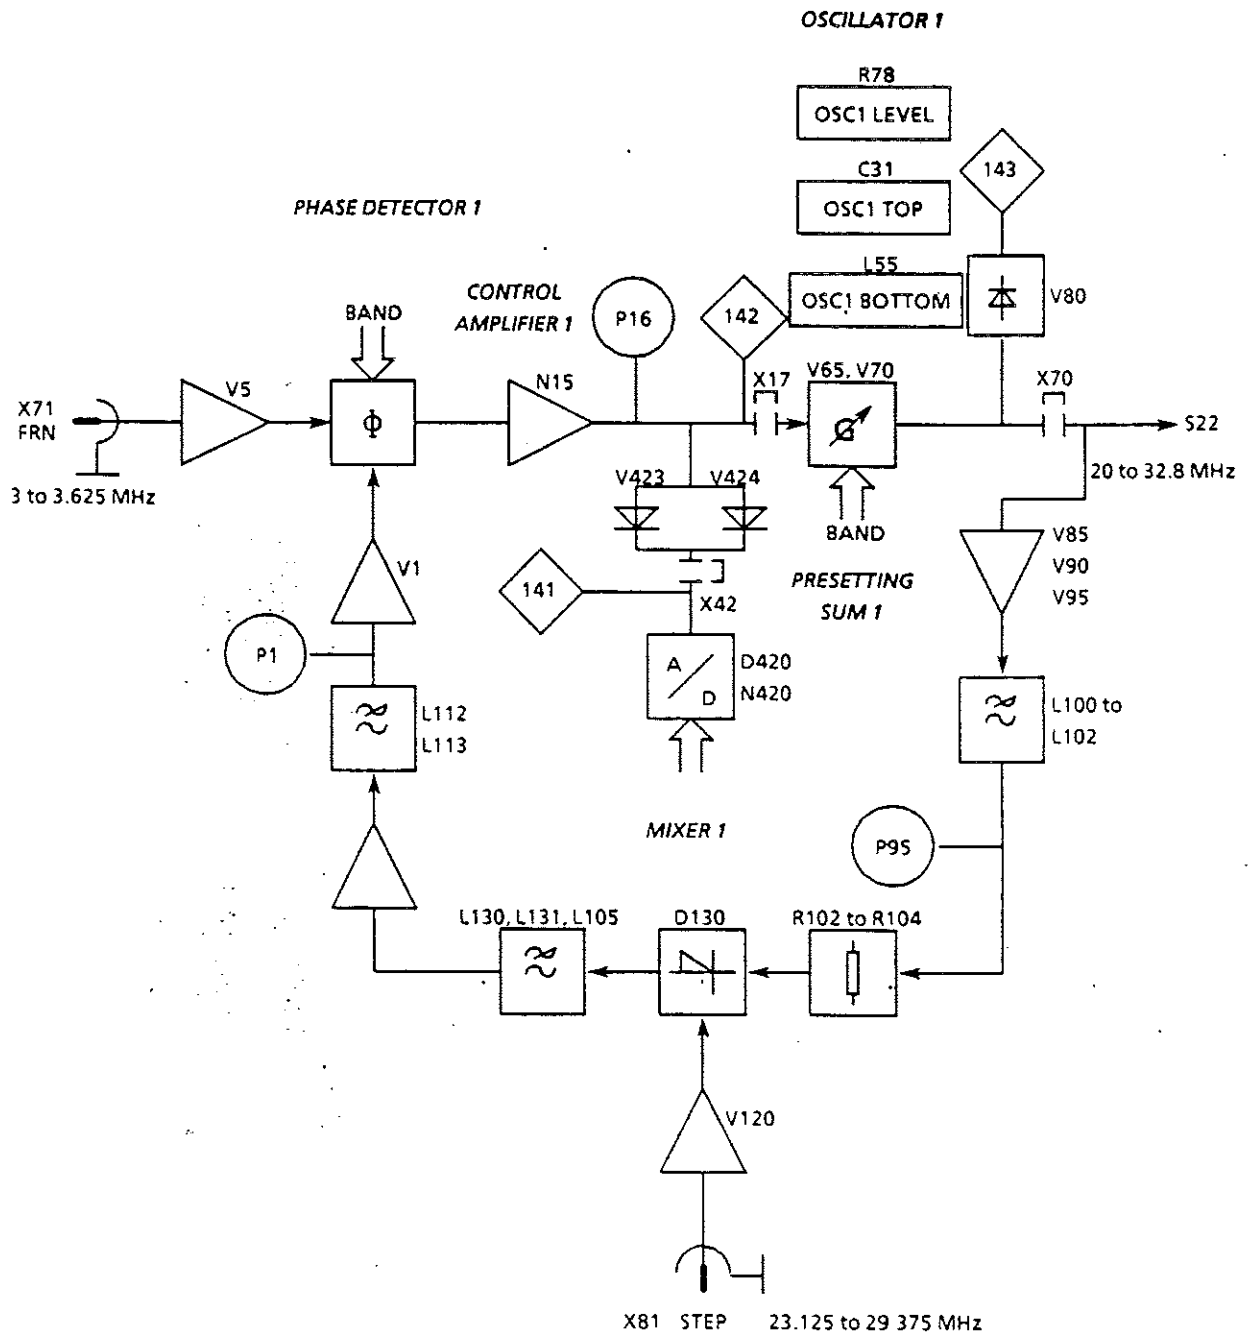

Fig. 5-1 Function diagram of "Summing loop 1"
(See circuit diagram 819.7166 5 and Fig. 5-1)
5.1.1 Summing loop 1 (see Fig. 5-1)
The above frequencies are shown in Fig. 5-1.